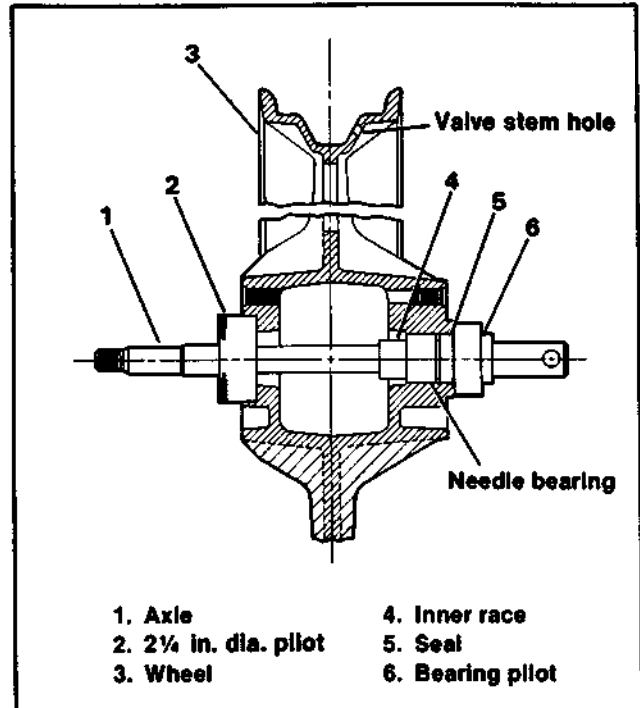

Figure 2. Seal Installation
2. See Figure 2. Install SEAL, Part No. 12047, as follows: